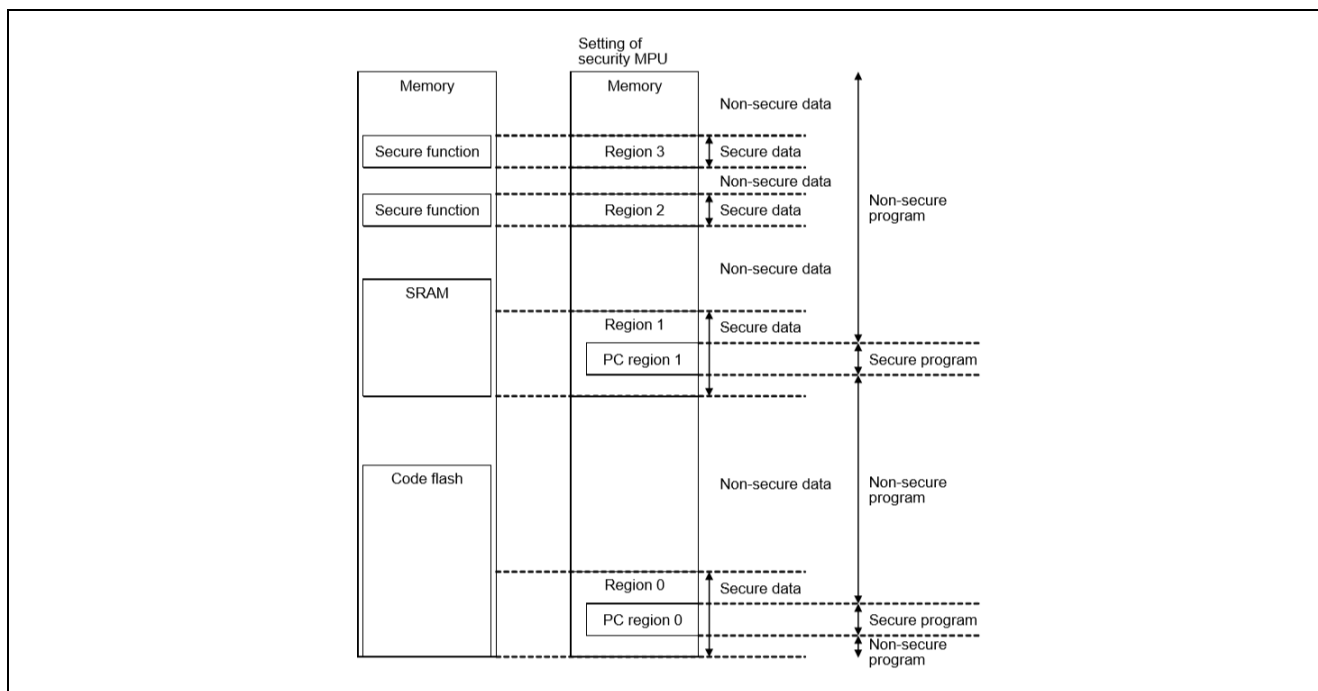

Figure 1. Security MPU Secure Regions
Figure 1 describes the available secure data regions and secure program regions provided by the Security MPU. Each region is defined by a pair of start and end addresses and an enable bit.
The Security MPU provides four secure data regions, as shown in Figure 1.
The Security MPU provides two secure program regions, each defined by a pair of start and end Program Counter (PC) addresses and an enable bit. There can be one secure flash program region and one secure SRAM program region. For security purpose, it is recommended that the secure program regions are located within the secure flash and secure SRAM data region respectively as shown in Figure 1.